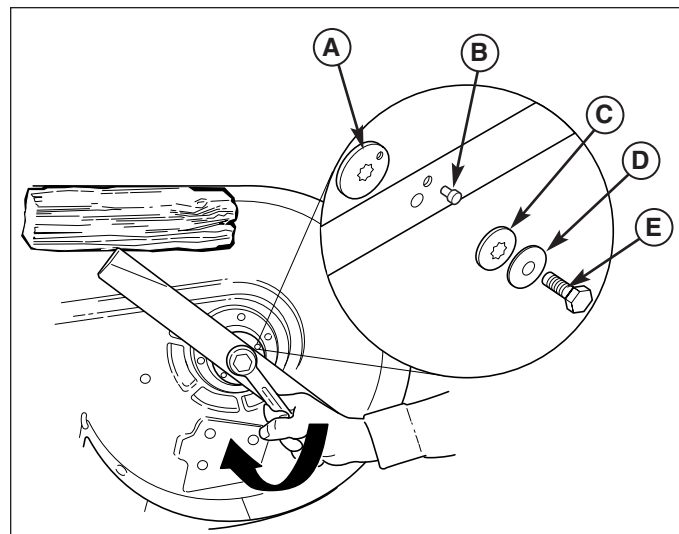
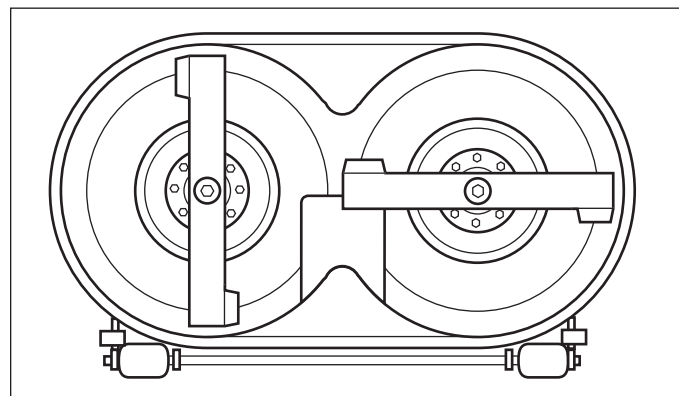

Figure 23. Installing The Blade
Figure 24. Blade Timing
4. Install the new blades with the lift tabs pointing up toward deck (Figure 23). Secure with a capscrew (E), spring washer (D), spline washer (C), and alignment pin (B) (be certain the spline washer is aligned with the shaft). Use a wooden block to prevent blade rotation and torque capscrews to 45-55 ft.lbs. (61-75 N.m.).
5. Check that the mower blades are timed perpendicular to each other (see Figure 24). If not, remove the blade and rotate the adapter (A, Figure 23).
2. Check that the mower blades are perpendicular to each other (Figure 24). If not, remove the blade and rotate the adapter (A, Figure 23) using the procedure outlined in Servicing the Mower Blades